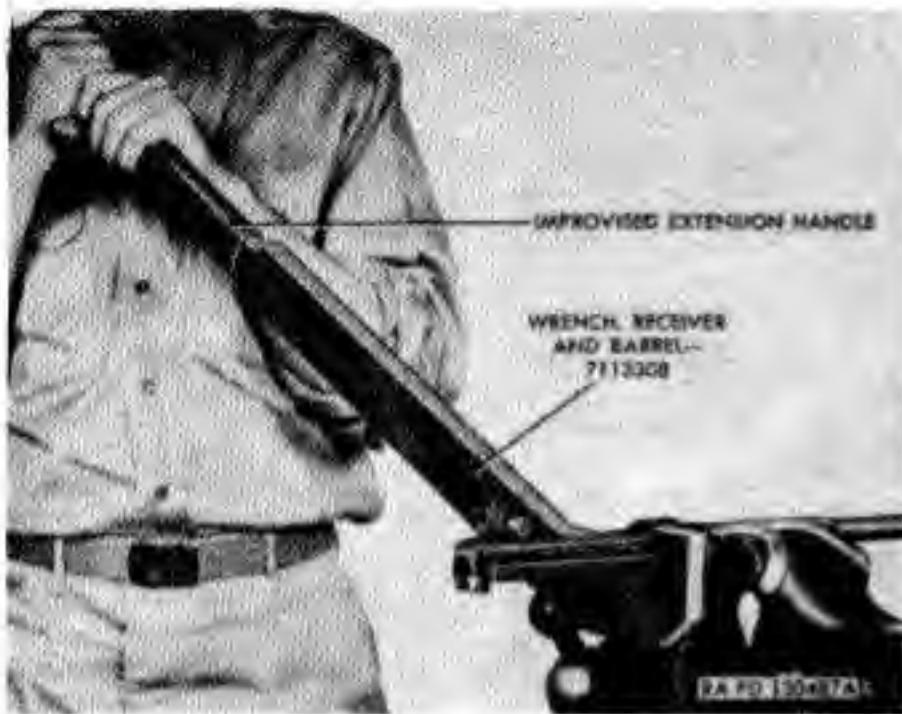

Figure 76. Removing barrel from receiver.
a. *Removing Barrel From Receiver (DEPOT MAINTENANCE ONLY).* Do not remove the barrel from the receiver except for replacement of a new barrel. Replace barrel if it is bent or damaged, if the chamber is worn to the extent of effecting excessive headspace or if it does not meet the requirements specified in table III. Completely disassemble all components from barrel and receiver. Place barrel in jaw protected vise. Allow enough of the rear end of the barrel to project from the vise to permit the wrench 7113308 to be positioned over front of receiver (Fig. 76). Place wrench over receiver near barrel and unscrew counterclockwise.